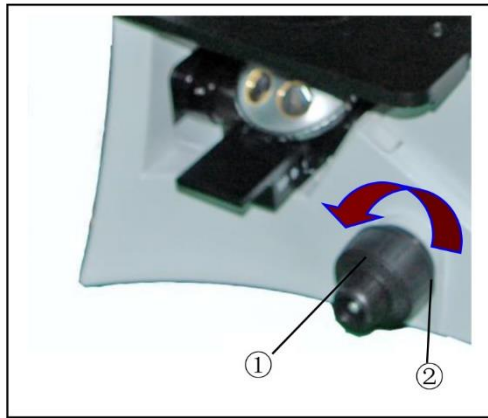
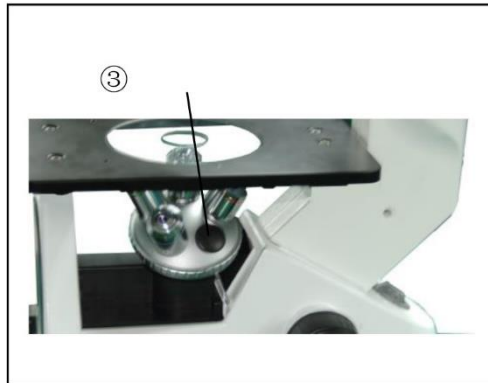

Figure 8
Figure 9
2.2.6. Installing the objective (Figure 8, Figure 9)